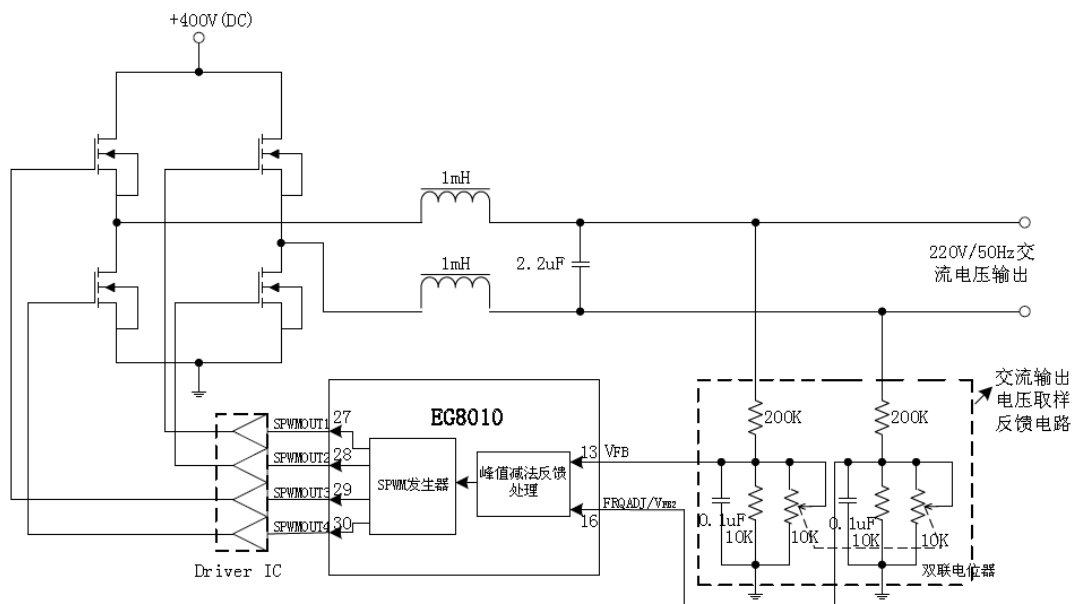

Figure 8.1c EG8010 the bipolar modulation output voltage feedback circuit
EG8010 chip operation modes the unipolar modulation and bipolar modulation, unipolar modulation only leg (the EG8010 pin SPWMOUT3, SPWMOUT4) do the SPWM modulation output, the other leg (the EG8010 pin SPWMOUT1 SPWMOUT2) doing the fundamental output filter inductor when the application needs to be connected SPWM modulation the bridge arm output terminal, the feedback voltage sampling circuit also connected to the output terminal of the inductor in the the SPWM modulation bridge arm, as shown in figure 8.1a. The bipolar modulation Shuangqiaoshan arm (EG8010 pin SPWM3,, SPWM4 SPWM1 SPWM2) at the same time do SPWM modulation output applications use two-way the inductor filter characteristics will be better voltage sampling the feedback circuit requires two voltage divider network to do the differential feedback process, as shown in Figure 8.1c. Unipolar modulation mode, the the EG8010 chip voltage feedback process is VFB2 feedback FRQADJ/VFB2 only FM mode FRQADJ function via pin (13) the VFB measuring inverter output AC voltage, the pin (16) invalid, the circuit structure shown in Figure 8.1a voltage sampling feedback section, the peak voltage measurement feedback and internal reference sine wave peak voltage of 3V error calculation, a corresponding adjustment of the output voltage when the output voltage increases, the pin voltage with an increasing internal circuit error value adjustment factor multiplier factor to reduce the
Bipolar modulation mode, the the EG8010 chip voltage feedback process is to measure the right leg of the output voltage via pin (13) the VFB measuring the left leg of the output voltage and the pin (16) FRQADJ/VFB2 VFB2 function only this when FRQADJ FM function is disabled, the circuit structure shown in Figure 8.1c voltage feedback section, two differential feedback to measure peak differential voltage and internal reference sine wave peak voltage of 3V error calculation, a corresponding adjustment to the value of the output voltage, the internal circuit error multiplier coefficients of adjustment factor value calculated to achieve the regulation process, bipolar modulation can also be adjusted to a desired output voltage within 1-3 AC cycle.